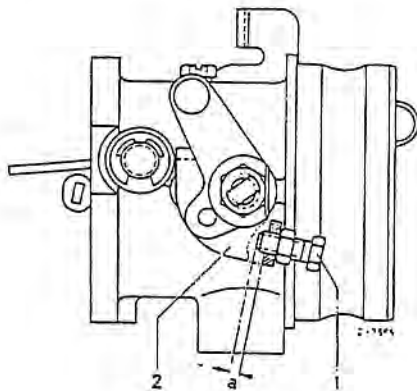

Fig. 00-19/5
If, for example, the throttle is opened up full while the vehicle is stationary or traveling downhill, the engine speed will exceed its full-load maximum. The vacuum is now increased to such an extent that the diaphragm or the double-link rocker (9) is lifted off the full-load stop and the diaphragm or control rod is shifted further in the STOP direction toward the butt bolt (Fig. 00-19/4).